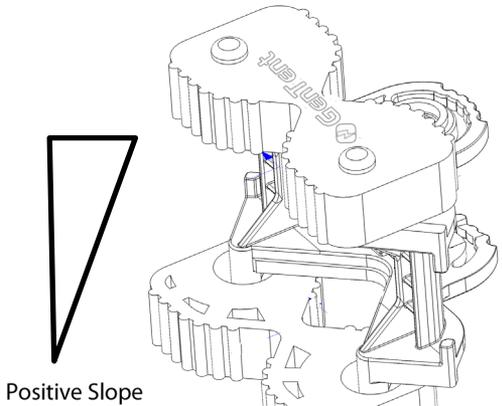

Fig. 1.9
- f. If you have a case that slopes in at the base (**Positive Slope**); install the top Gator Grommet™ with the “thin” (fig 1.4) side and the bottom Gator Grommet™ with “thick” (fig 1.4) side facing the case (Fig 1.9)